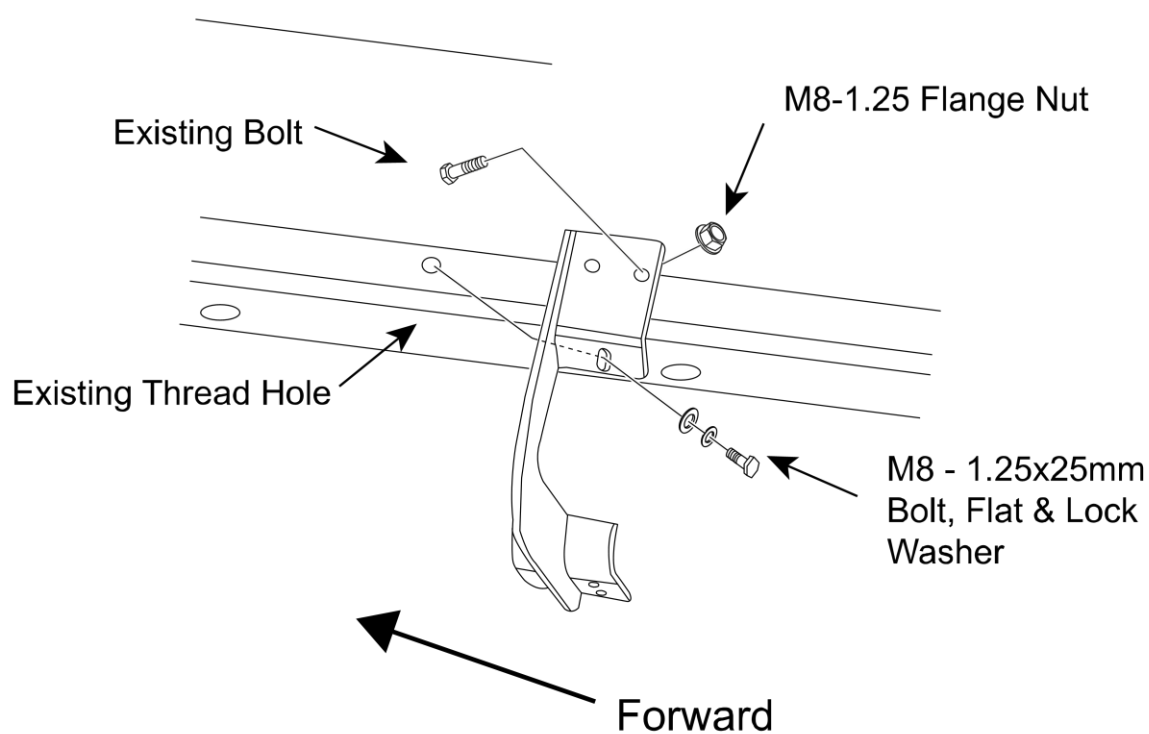

Figure 2. Installation View of Passenger Side Shown
6. Repeat installation for passenger side. (see Fig 2)